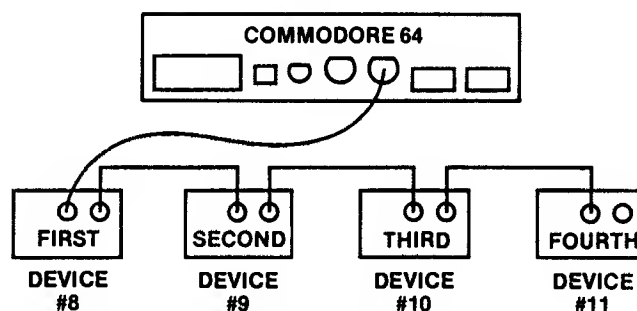

Fig. A-4. As many as four VIC-1541 disk drives can be connected to your Commodore 64 computer.
Up to four VIC-1541 disk drives can be attached to your Commodore 64 computer as shown in Fig. A-4.
9. Locate device number jumpers as shown in Fig. A-4. These are halfway back on the left edge of the board.
10. Cut either, or both, jumpers 1 and 2, as determined by Fig. A-4.